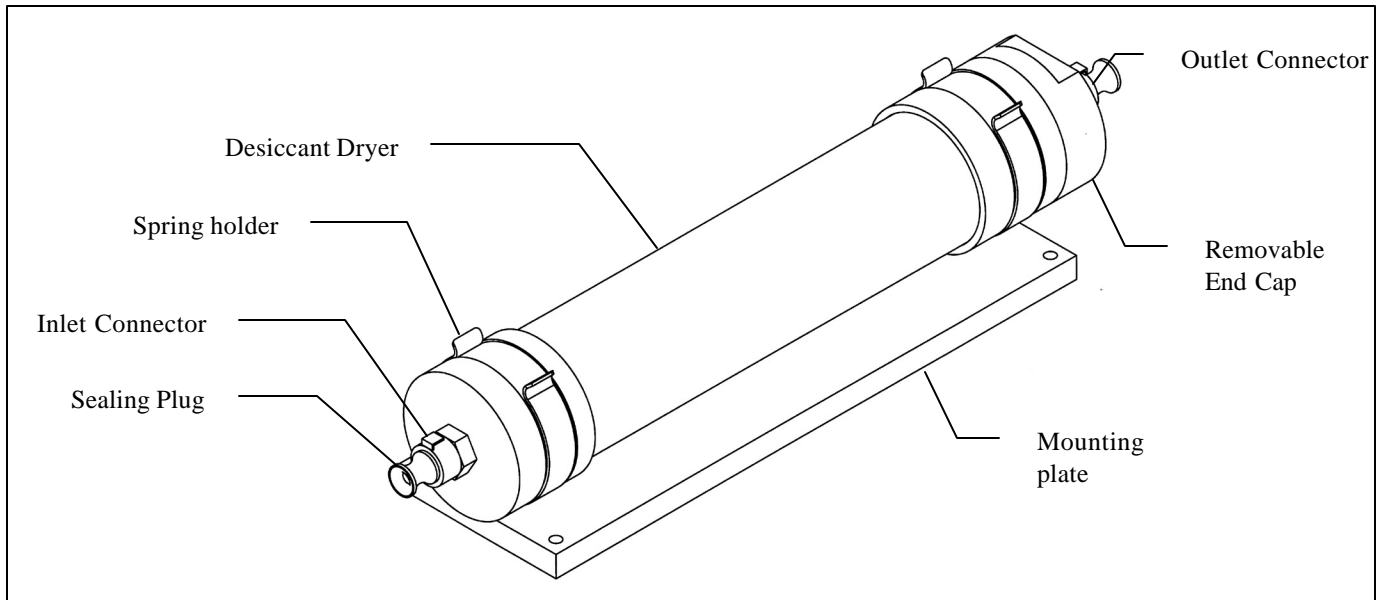

Figure 1
1. Disconnect the inlet and outlet connection and remove the dryer from its holding brackets. (Refer to Figure 1)